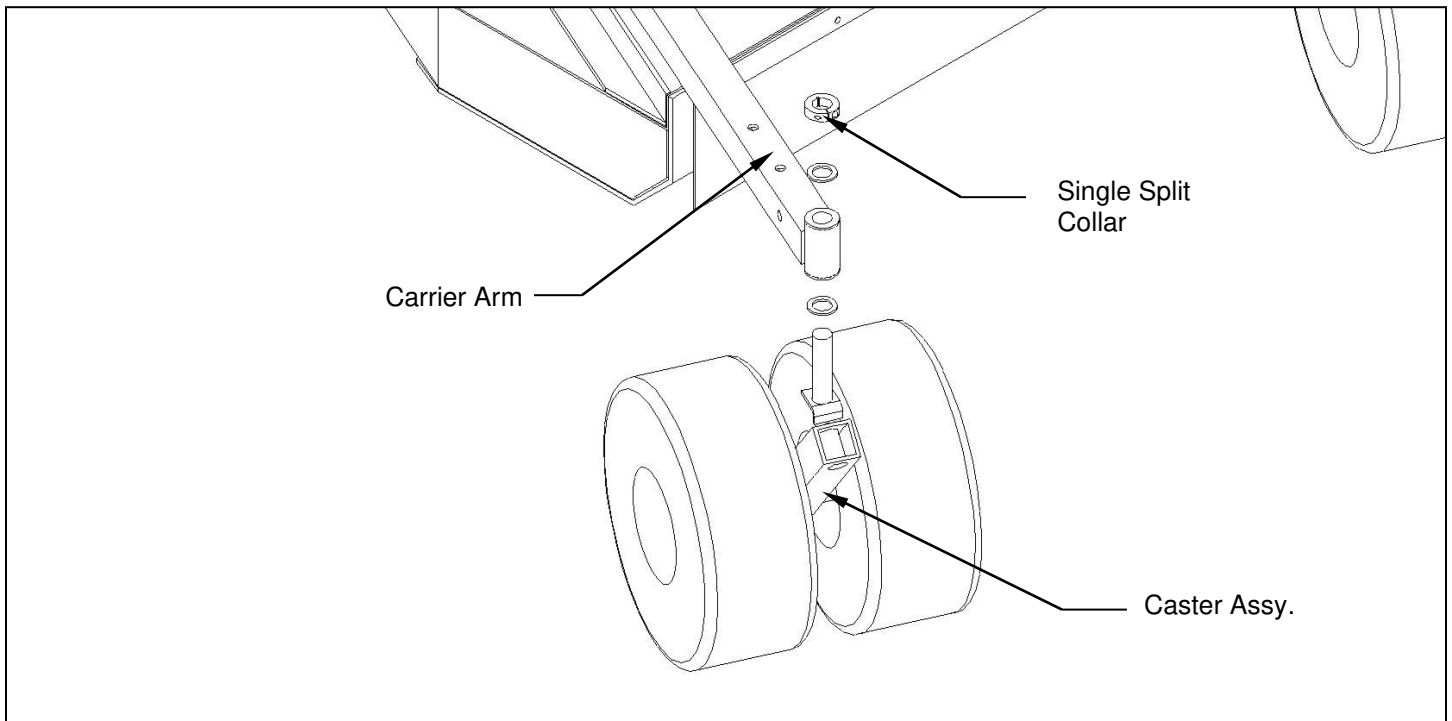

Figure 2. Assembly of Front Caster
B. INSTALL FRONT CASTERS (Refer to figure 2)